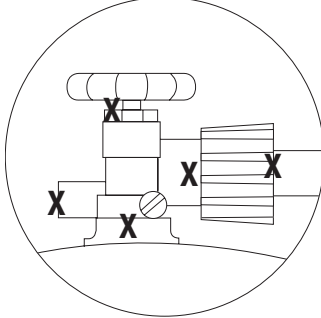

Figure 4
8. If igniter does not light burner, use a lit match secured with the lighting rod provided to light burners manually. Position the lit match near side of the burner. (Figure 4)